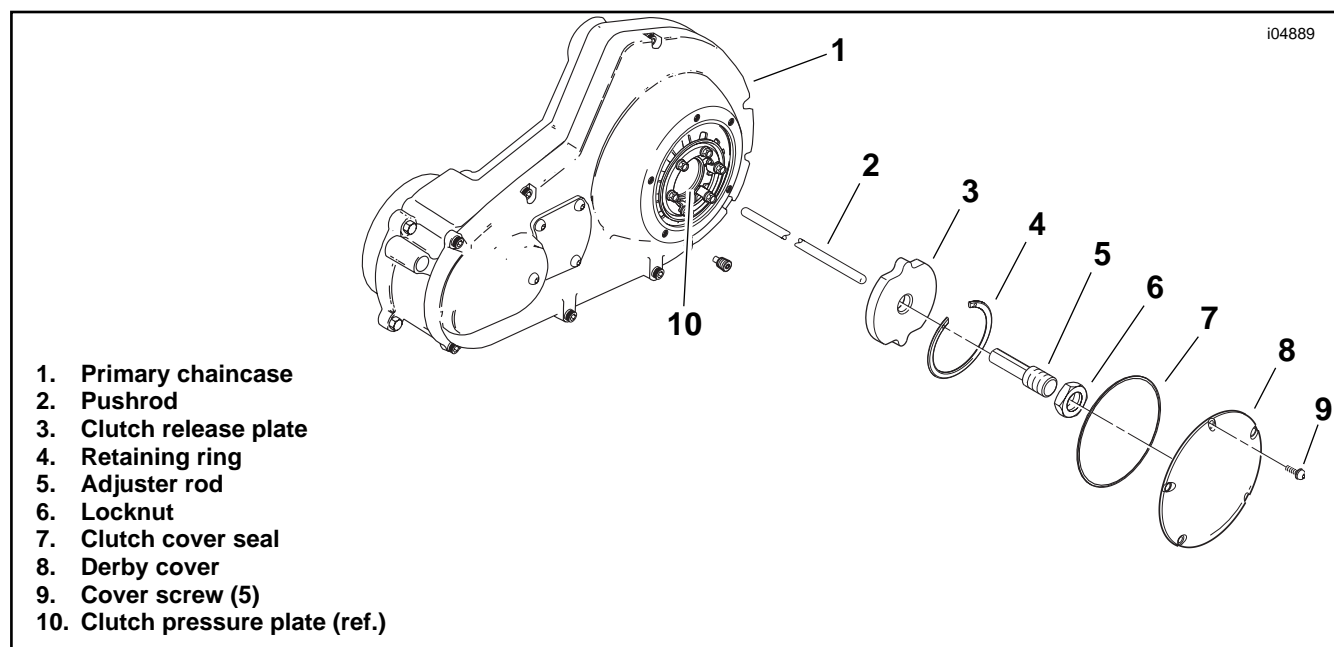

Figure 3. Clutch Pushrod Removal
14. If necessary, remove the left-side passenger footpeg or footboard. See Figure 3. Using a T27 TORX drive head, remove the clutch-inspection (derby) cover (8) from the primary chaincase (1).
15. Remove the clutch release plate retaining ring (4) and discard. Remove the release plate (3), adjuster rod (5) and nut (6) as an assembly, and discard.
16. Extract the pushrod (2) by pushing it through from the right (transmission side cover) side until it can be grasped through the clutch pressure plate (10). Pull the pushrod out of the chaincase opening and discard it.